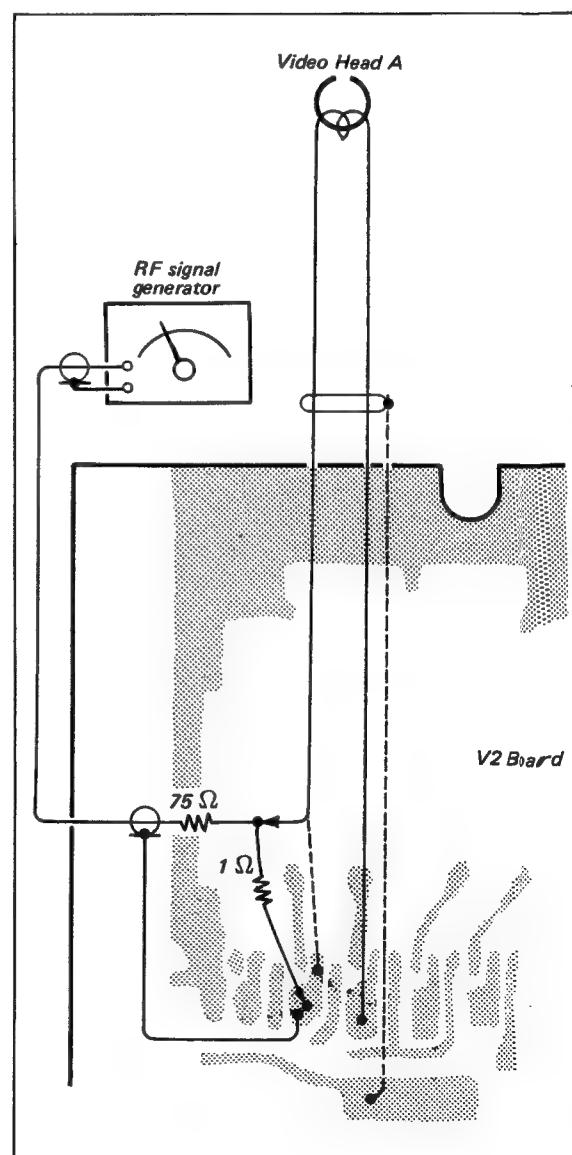

Fig. 5-5. Set-up for adjusting video-head resonance
See Fig. 5-5.
1. Lift the orange lead of the cable to the "A" head at the V2 Board and connect the resistive network shown in Fig. 5-5.